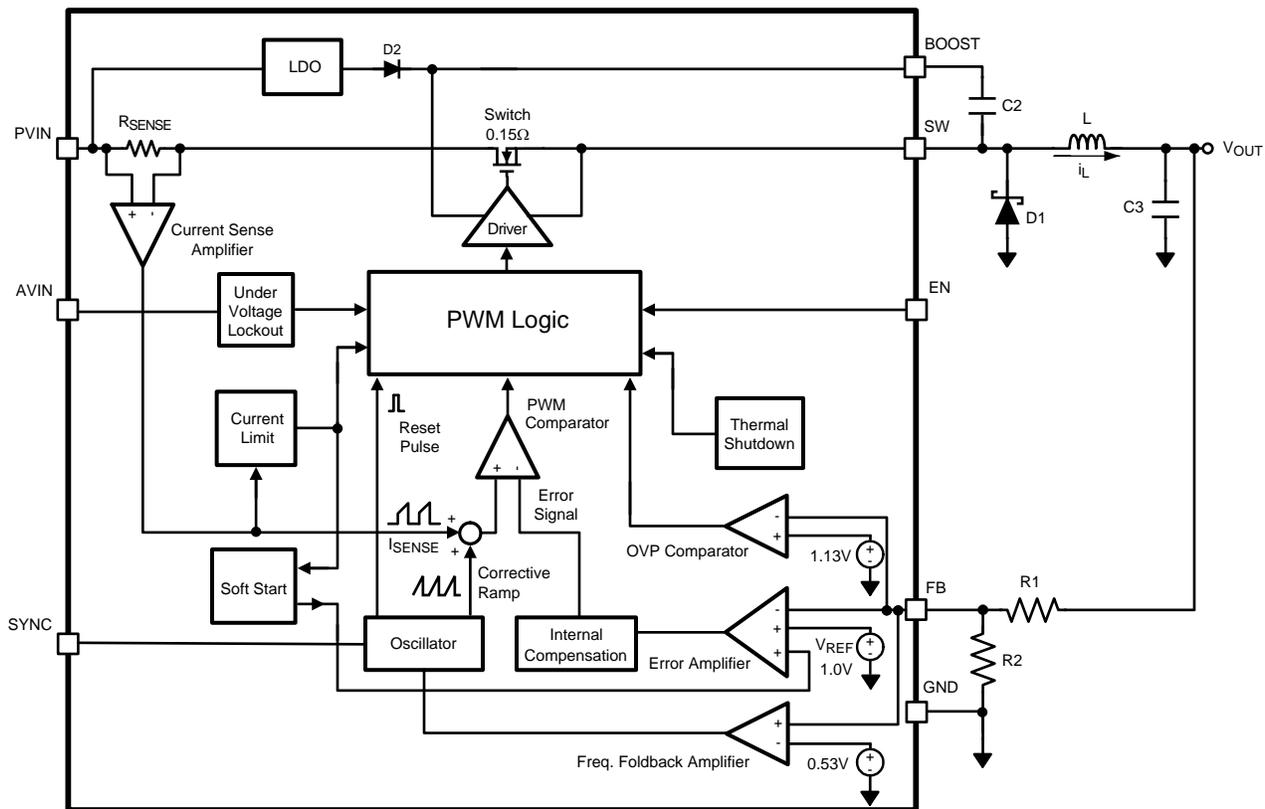
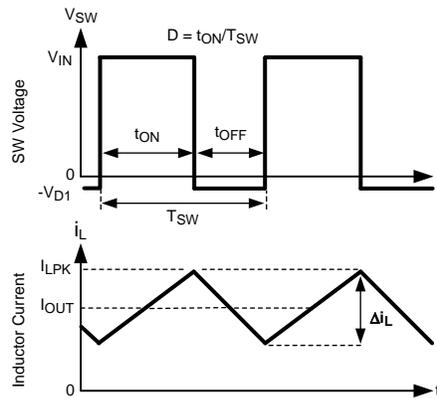

Figure 4. Simplified Block Diagram
Figure 5. LMR12015/20 Waveforms of SW Pin Voltage and Inductor Current
The following operating description of the LMR12015/20 will refer to the Block Diagram (Figure 4) and to the waveforms in Figure 5. The LMR12015/20 supplies a regulated output voltage by switching the internal NMOS switch at a constant frequency and varying the duty cycle. A switching cycle begins at the falling edge of the reset pulse generated by the internal oscillator. When this pulse goes low, the output control logic turns on the internal NMOS switch. During this on-time, the SW pin voltage (V_{SW}) swings up to approximately V_{IN} , and the inductor current (i_L) increases with a linear slope. The current-sense amplifier measures i_L , which generates an output proportional to the switch current typically called the sense signal. The sense signal is summed with the regulator's corrective ramp and compared to the error amplifier's output, which is proportional to the difference between the feedback voltage (V_{FB}) and V_{REF} . When the output of the PWM comparator goes high, the switch turns off until the next switching cycle begins. During the switch off-time (t_{OFF}), inductor current discharges through the catch diode D1, which forces the SW pin (V_{SW}) to swing below ground by the forward voltage (V_{D1}) of the catch diode. The regulator loop adjusts the duty cycle (D) to maintain a constant output voltage.
Capacitor C_2 in Figure 4, commonly referred to as C_{BOOST} , is used to store a voltage V_{BOOST} . When the LMR12015/20 starts up, an internal LDO charges C_{BOOST} via an internal diode, to a voltage sufficient to turn the internal NMOS switch on. The gate drive voltage supplied to the internal NMOS switch is $V_{BOOST} - V_{SW}$.
During a normal switching cycle, when the internal NMOS control switch is off (t_{OFF}) (refer to Figure 5), V_{BOOST} equals V_{LDO} minus the forward voltage of the internal diode (V_{D2}). At the same time the inductor current (i_L) forward biases the catch diode D1 forcing the SW pin to swing below ground by the forward voltage drop of the catch diode (V_{D1}). Therefore, the voltage stored across C_{BOOST} is
Inductor selection is critical to the performance of the LMR12015/20. The selection of the inductor affects stability, transient response and efficiency. A key factor in inductor selection is determining the ripple current (Δi_L) (see Figure 5).